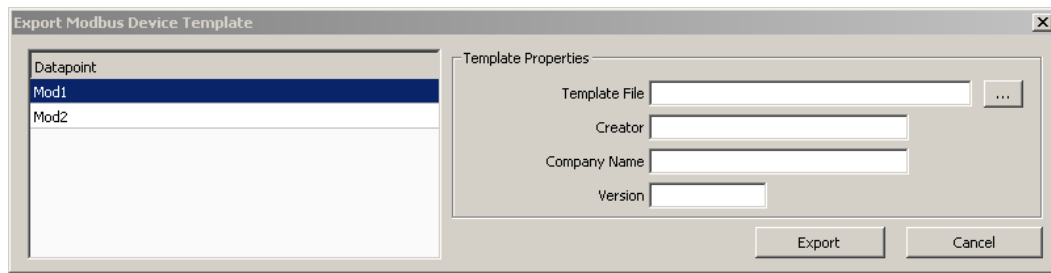

Figure 235 Export Modbus Device Template dialog.
- Press the **Export Device Templ.** button. This opens the **Export Modbus Device Template** dialog shown in Figure 235. The list on the left side of the dialog shows the names of the data points which are exported to the template.
- This opens the **Export Modbus Device Template** dialog as shown in Figure 235. Proceed as described above.